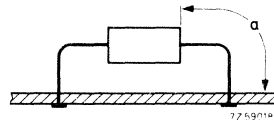

Fig. 3 Mounted on a printed-circuit board.
3. Thermal resistance from junction to ambient when mounted on a printed-circuit board at any lead length a ; Fig. 3